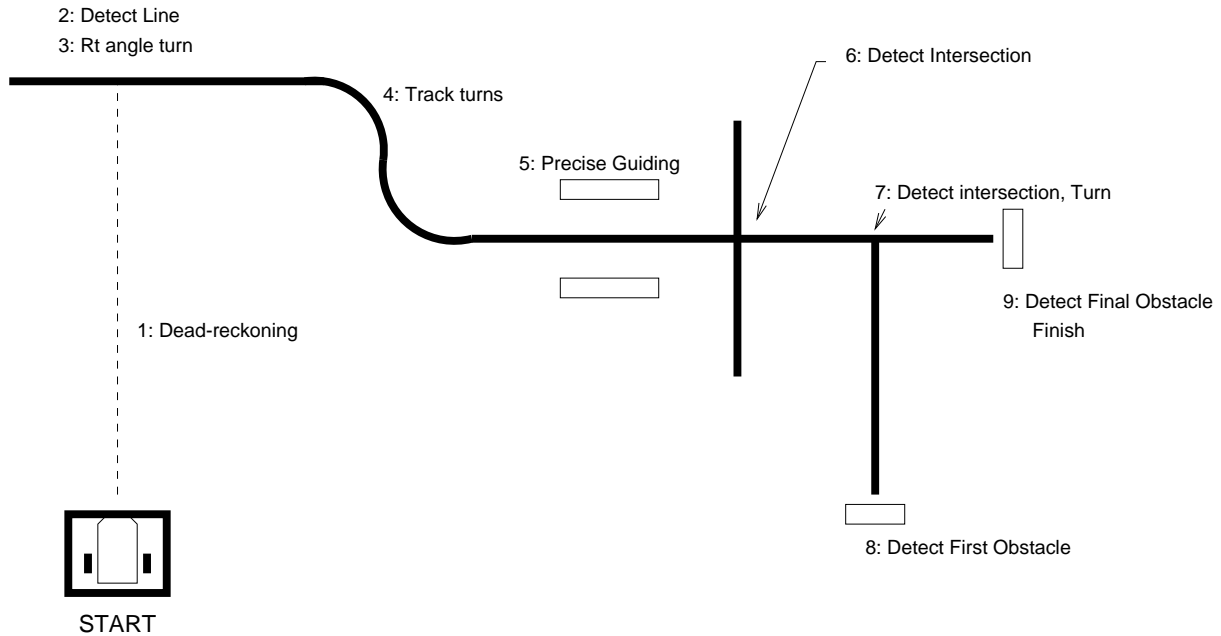

Figure 1: Robot Guidance Challenge
The ELE538 Project is to equip the *eebot* mobile robot with a navigation system that can find and follow a line (the *track*) to a destination. A possible course with the various navigational challenges, is shown in figure 1.
- The exact layout is subject to change, but will include features similar to those shown in figure 1. Students will be informed of any changes well in advance of the demo date.